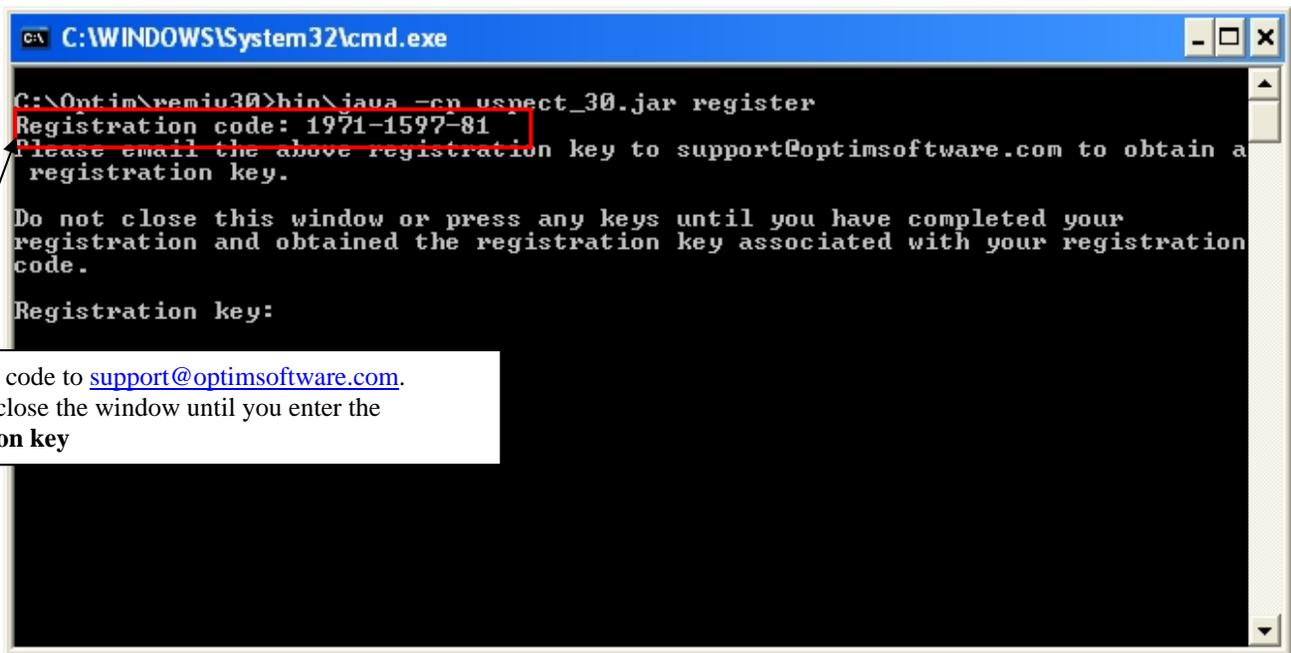

Figure 3: A command (MS-DOS) window opens up with the “Registration Code”
3. A command (MS-DOS) window will open up (Figure 3), displaying the “Registration Code”.